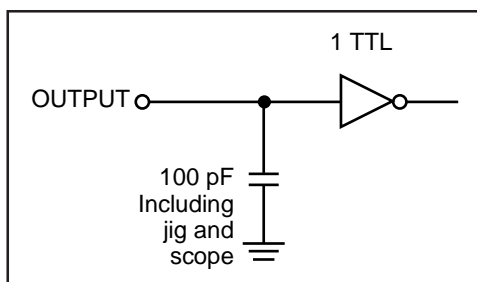

Figure 1
1. Test conditions assume signal transition times of 5 ns or less, input pulse levels of 0.4V to 1.4V and output loading specified in Figure 1.
Output Load	See Figures 1 and 2